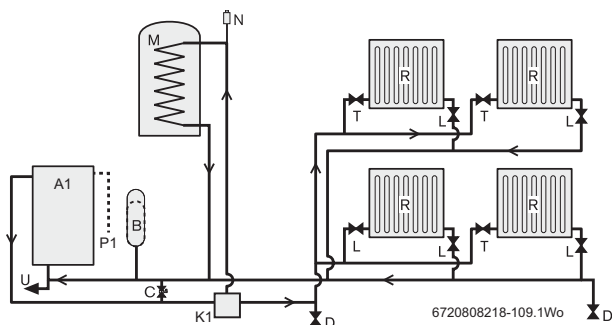

Fig. 13 System boiler system layout
**Continued - Key to condensate illustrations, figures 13,14, 15 & 16**